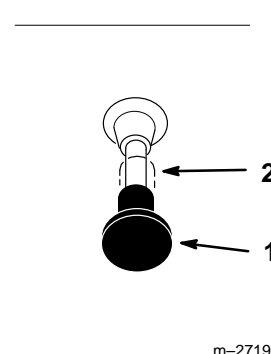

Figure 4
7. After the engine starts, move the choke to “OFF” (Fig. 4). If the engine stalls or hesitates, move the choke back to “ON” for a few seconds. Then move the throttle lever to desired setting. Repeat this as required.